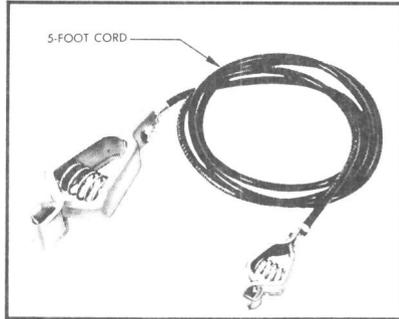

FIGURE 2. B Temporary Bond
- a. B Temporary Bond, CTS #74-88-011-0, (Figure 2).